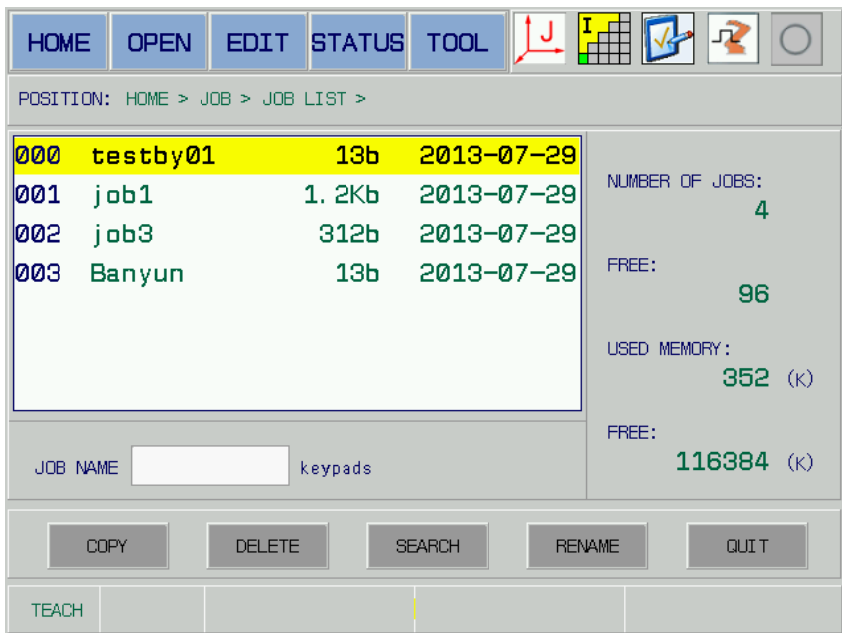

Fig. 5-18
1. Shift cursor to the {JOB} menu by [TAB] and left/right direction button, then open the {JOB} submenu matching with the [SELECT] and move the cursor to the {Job list} menu by up/down direction button, lastly open the {Job list} page by [SELECT]; refer to the Fig. 5-18.